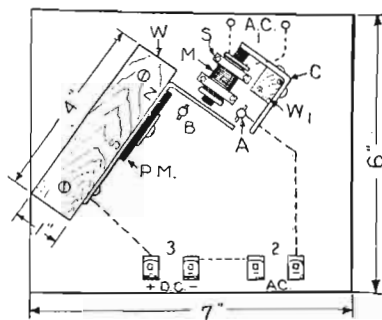

FIG. 3 - COMPLETE SET
of bakelite or brass (K) by means of a brass screw. Then bend the "C" end at B in your direction until it makes an acute angle with A. (See also Fig. 3). The vibrator assembly is now complete, and the method of fixing it to the base follows.
In Fig. 3 a plain open view of the complete parts and their arrangement is shown. The base is made of chestnut and is $\frac{3}{4}$ -inch thick. The wooden support (W) is screwed firmly to the base, while two binding posts are fastened into the base on opposite sides of the vibrator, one near its support (B) and the other near its end (A). The post A forms the contact point, whereas B is used to